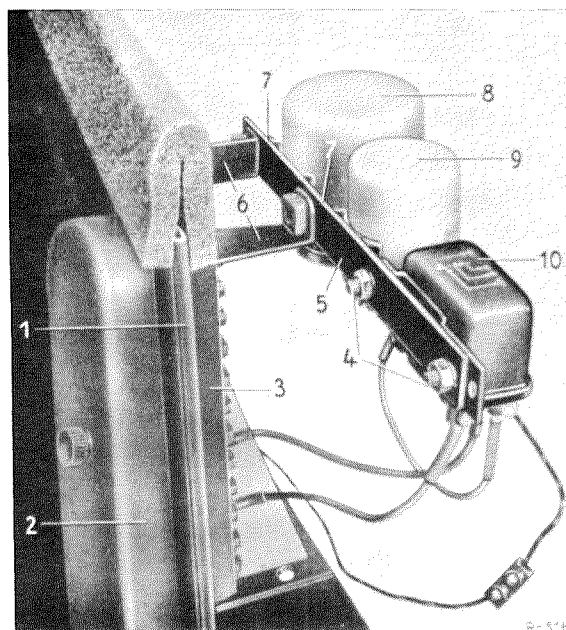

Fig. 82—19/3
4. Unscrew the two hexagon screws (7) for fixing the two flash signal mechanisms (8) and (9) (see Fig. 82—19 3).
5. Fix the bracket (5) for the contactor (10) with the two flash signal mechanisms (8) and (9) to the bracket (6), screwing in the two hexagon screws (7) with lock washers (Fig. 82—19 3).